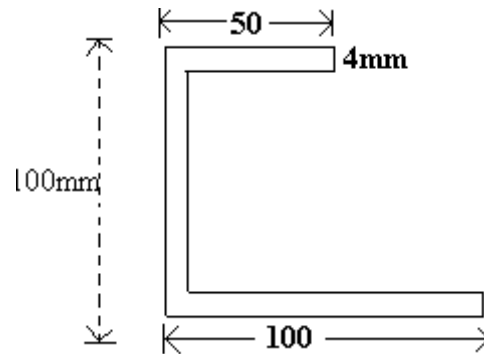

Figure 4:
1. Find the Centroid, Moment of inertia about both centroid and Product of inertia for the unsymmetrical section shown in Figure 4. .